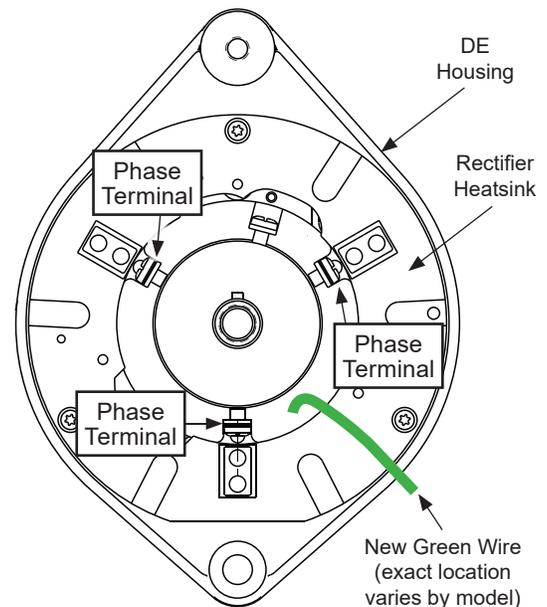

Figure 2: Typical DE Side Connections (varies by model)
4. Reinstall rectifier heatsink on DE housing while feeding the green wire through the inside of the heatsink as shown in Figure 2. Torque mounting screws to 20 in. lbs/ 2.3 Nm.